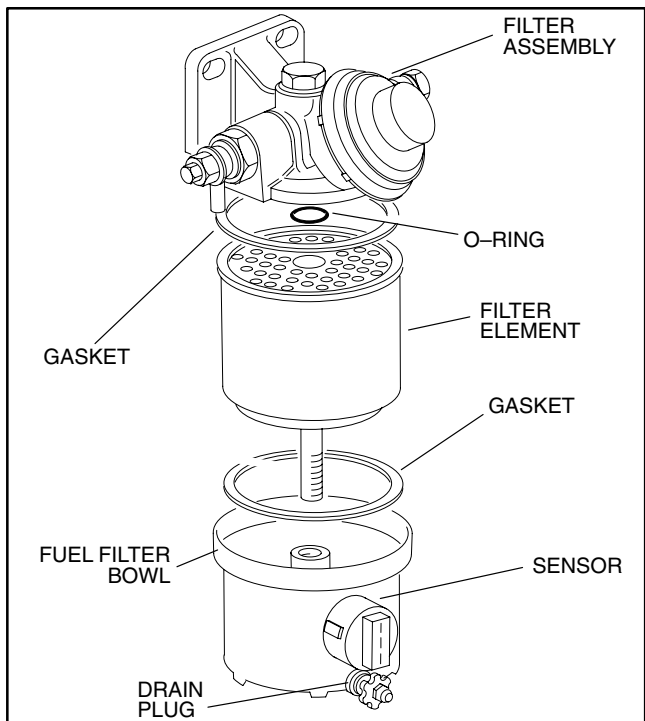

Figure 43
4. Unscrew fuel filter bowl from the assembly. Remove filter element, gaskets, and O-ring from the assembly. Store seals in a clean place (Fig. 43).